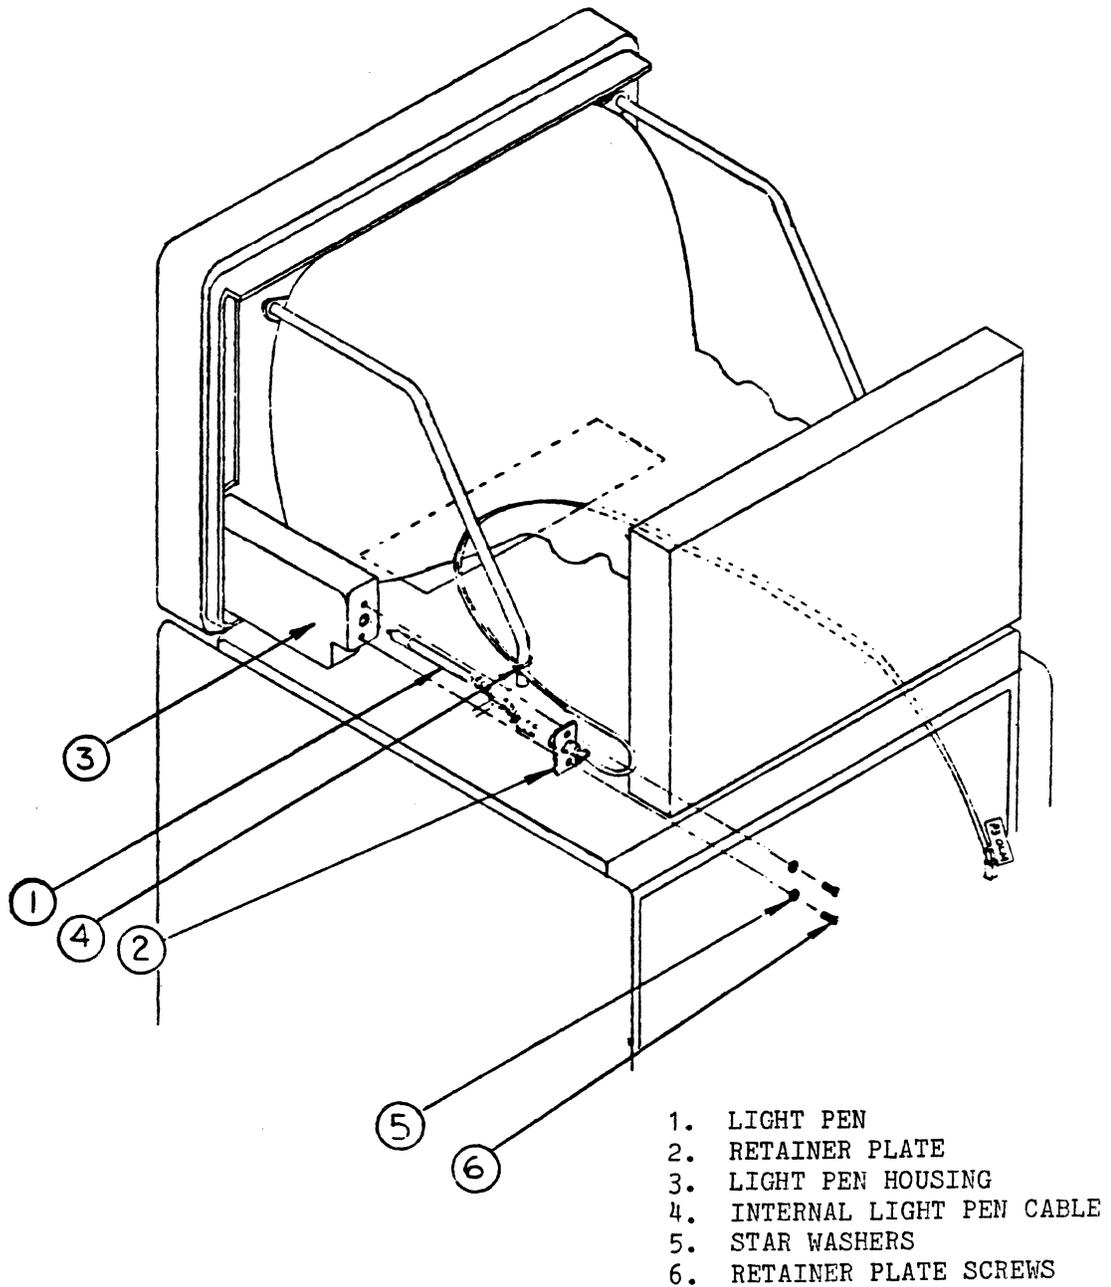

Figure 1
- 2) Open the door at the right of the screen. Insert the light pen through the hole in the back of the housing (Figure 1). Do not feed the connector through the hole.